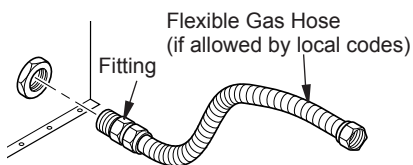

Figure 11 - Attaching Flexible Gas Hose to Heater
1. Apply pipe joint sealant lightly to male threads of the fitting to be threaded into gas regulator. Connect approved flexible gas hose to gas regulator of heater (see Figure 11).